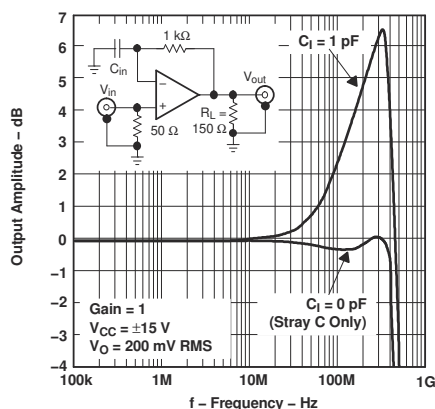
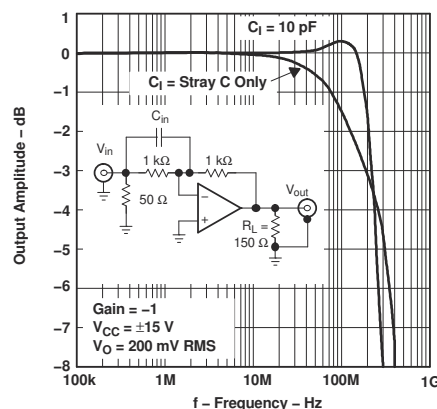

Figure 7-11. Output Amplitude vs Frequency
Figure 7-12. Output Amplitude vs Frequency
- Input stray capacitance: To minimize potential problems with amplifier oscillation, the capacitance at the inverting input of the amplifiers must be kept to a minimum. To do this, PCB trace runs to the inverting input must be as short as possible, the ground plane must be removed under any etch runs connected to the inverting input, and external components need to be placed as close as possible to the inverting input. This is especially true in the noninverting configuration. An example of this can be seen in Figure 7-11, which shows what happens when a 1pF capacitor is added to the inverting input terminal. The bandwidth increases at the expense of peaking. This is because some of the error current is flowing through the stray capacitor instead of the inverting node of the amplifier. Although, while the device is in the inverting mode, stray capacitance at the inverting input has a minimal effect. This is because the inverting node is at a *virtual ground* and the voltage does not fluctuate nearly as much as in the noninverting configuration. This can be seen in Figure 7-12, where a 10pF capacitor adds only 0.35dB of peaking. In general, as the gain of the system increases, the output peaking due to this capacitor decreases. While this can initially look like a faster and better system, overshoot and ringing are more likely to occur under fast transient conditions. So proper analysis of adding a capacitor to the inverting input node needs to be performed for stable operation.